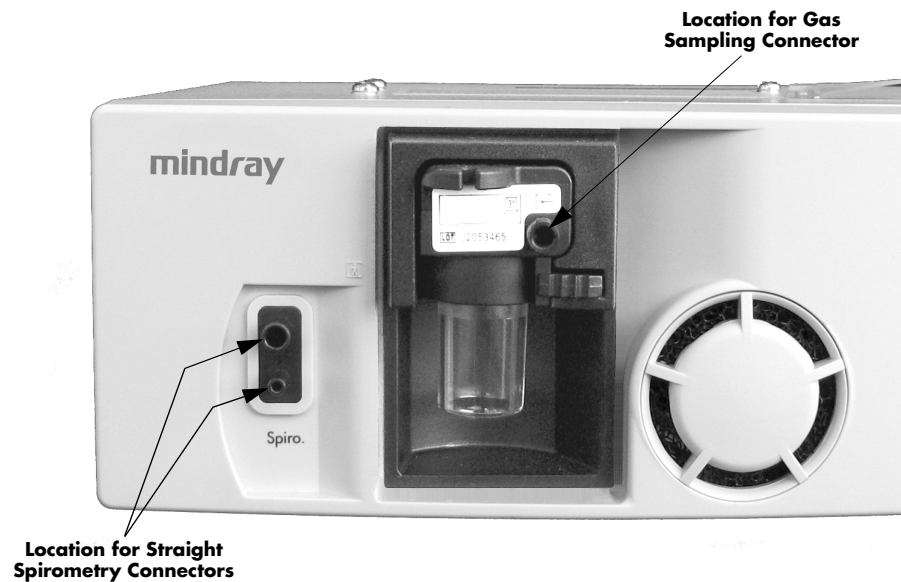

FIGURE 2-50 Connections on the Gas Module SE
4. Connect the Gas Sampling Line and the Spirometry Tubes with the Straight Spirometry Connectors to the connectors on the Gas Module SE (shown in FIGURE 2-50).